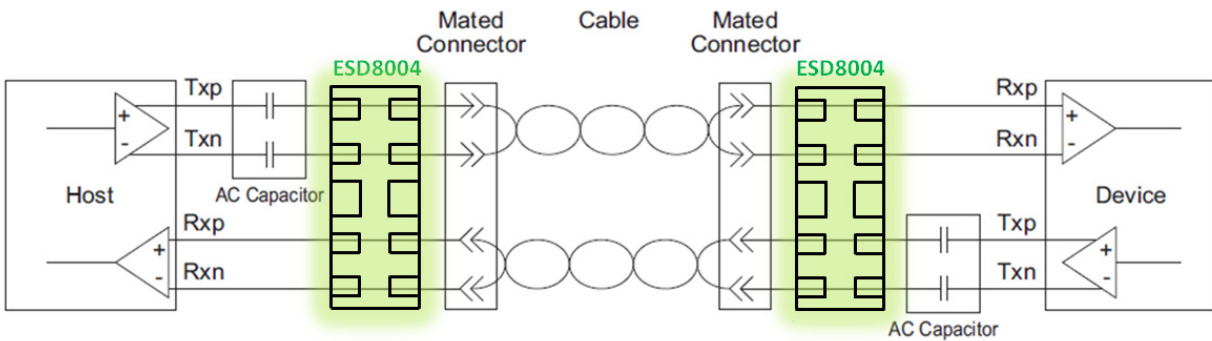

Figure 16. USB 3.0/3.1 Connection Diagram
- ♦ In USB 3.0/3.1 applications, the ESD protection device should be placed between the AC coupling capacitors and the I/O connector on the TX differential lanes as shown in Figure 16. In this configuration, no DC current can flow through the ESD protection device preventing any potential